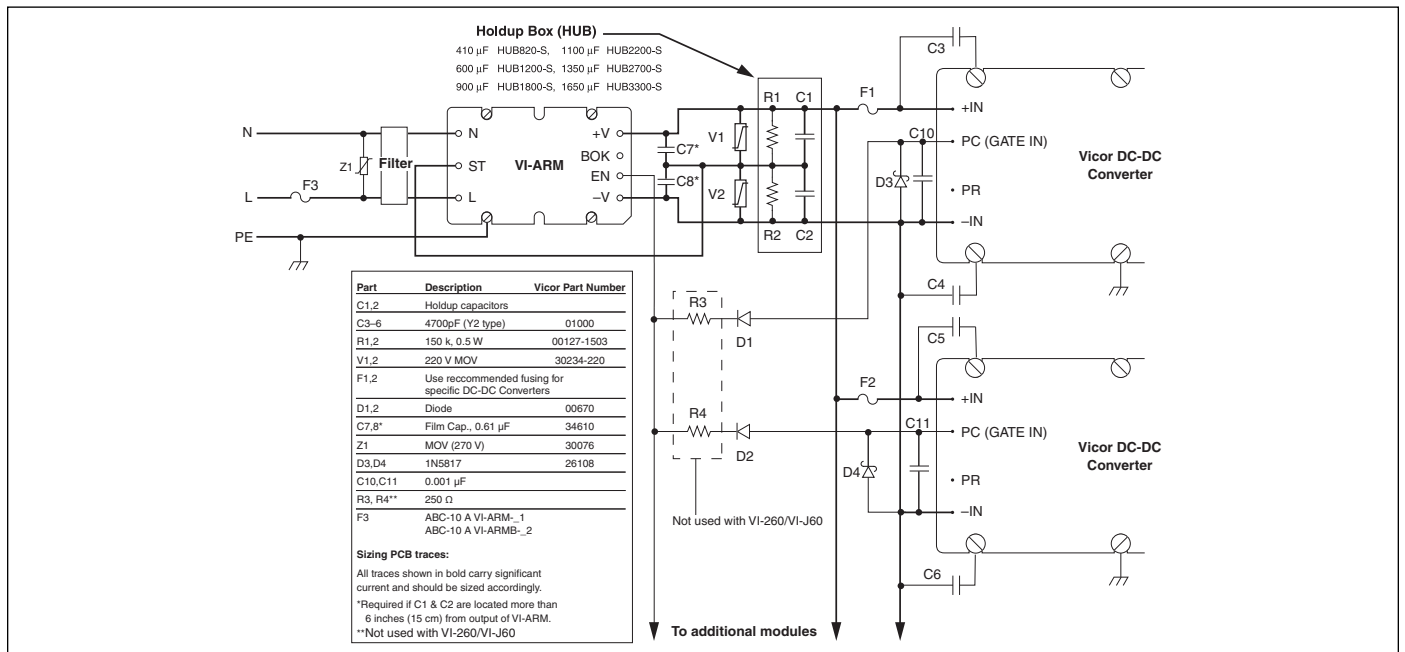

Figure 7-3 — Typical ARM application
**Strap (ST) Pin.** In addition to input and output power pin connections, it is necessary to connect the Strap pin to the junction of the series hold-up capacitors (C1, C2, Figure 7-3) for proper (autoranging) operation. Varistors across the capacitors provide input transient protection. The bleeder resistors (R1, R2, Figure 7-3) discharge the hold-up capacitors when power is switched off.
It should be noted that the series combination ( $C_1$ ,  $C_2$ , Figure 7-3) requires each capacitor to be twice the calculated value, but the required voltage rating is reduced to 200 V.